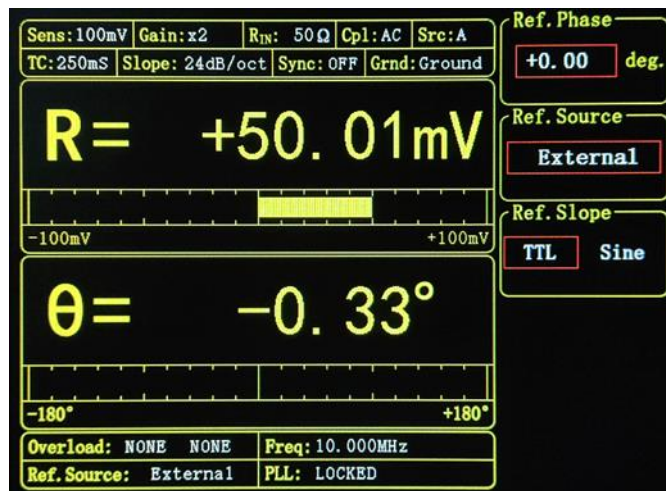
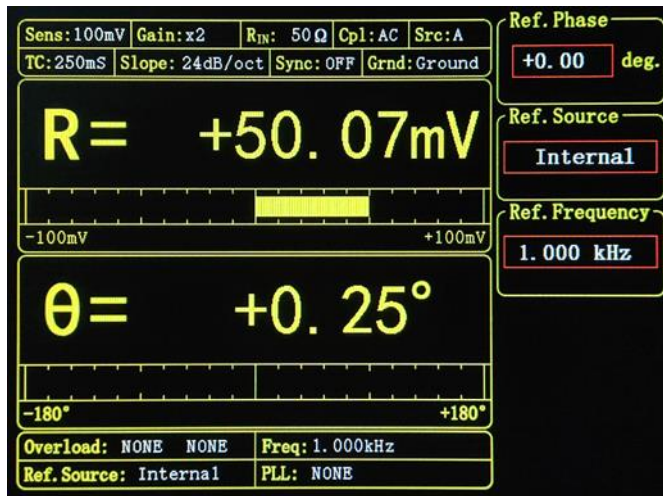
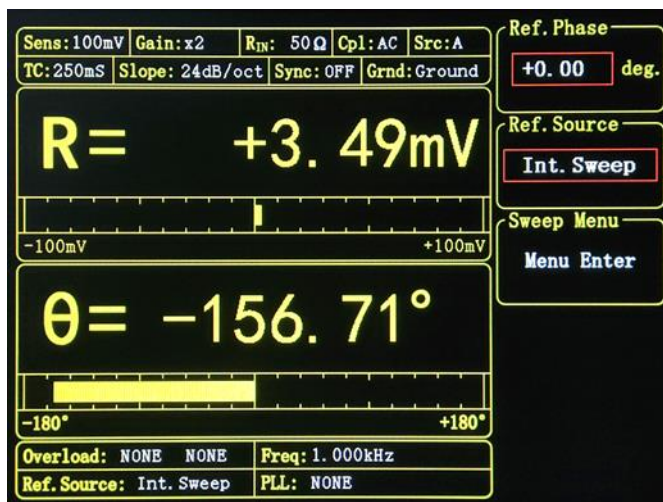

Fig.16 [REF/PHASE] Submenu-<External>.
Fig.17 [REF/PHASE] Submenu-<Internal>
Fig.18 [REF/PHASE] Submenu-<Internal Sweep>
Press [REF/PHASE] and enter its submenu. There are 5 function settings in the submenu, including <Ref.phase>, <Ref.source>, <Ref.slope>, <Ref.frequency>, and <Sweep>. When choose different <Ref.source>, there will be different submenus as shown in Fig.16, Fig.17 and Fig.18.
- <External> The external reference signal. OE2041 will be phase-locked to the reference signal of the REF-IN BNC input. As is shown in Fig.16, <Ref.slope> can be set.
- <Internal> The internal reference signal. In this mode, the reference signal is from the internal oscillator. The [REF IN] signal is useless. As is shown in Fig.17, <Ref.frequency> can be set.
- <Internal Sweep> The internal reference signal sweep. In this mode, the signal generator will conduct internal sweep according to the parameters set by users. As is shown in Fig.18, <Sweep> can be set.